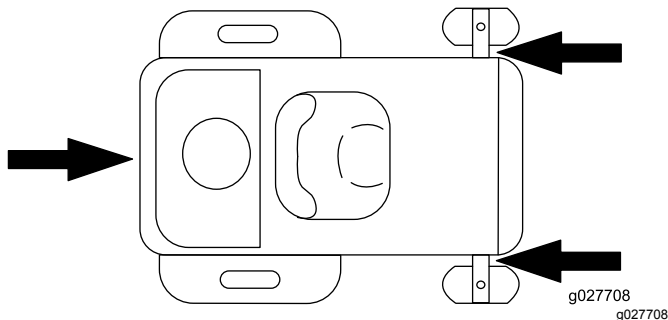

Figure 36
5. Tie down the machine near the front caster wheels and the rear bumper (Figure 36).